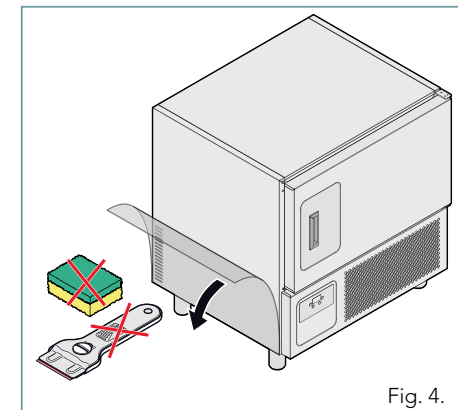

Fig. 4.
**!** For proper air exchange, it is mandatory to leave a rear space of approximately 4 cm free from objects and walls (Fig. 4).
Remove the protective film (Fig. 4): clean any glue residue with soapy water without using tools that could damage the surfaces or abrasive or acidic detergents.